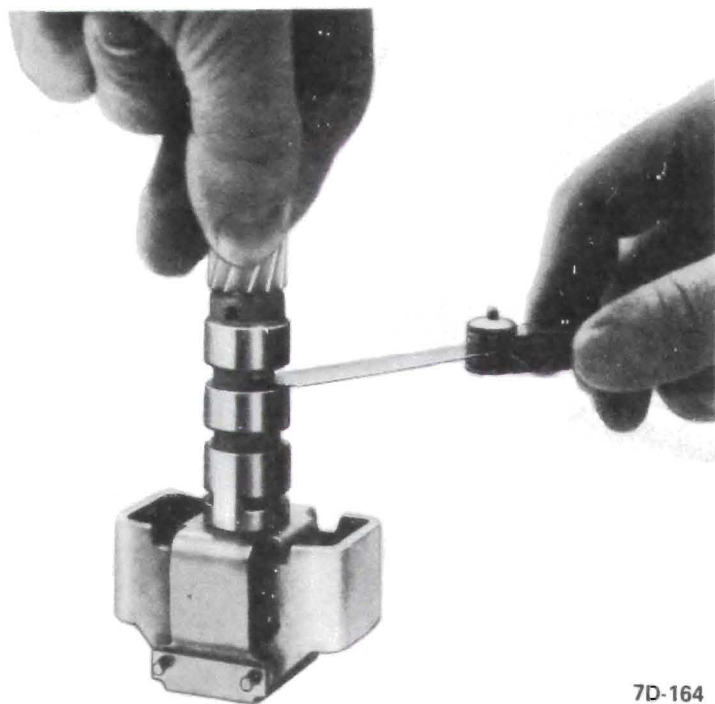

Figure 7D-164
10. Check valve opening at entry (.020 inch minimum) with a feeler gage, holding governor as shown in Figure 7D-164, with governor weights extended completely outward. For exhaust (.020" minimum) governor weights must be completely inward.